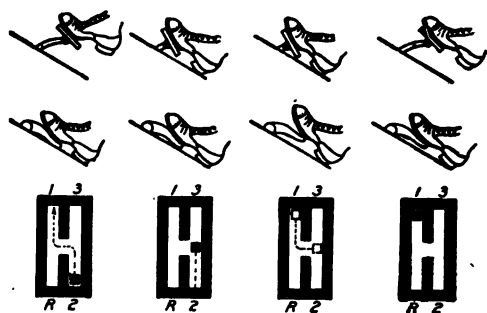

Fig. 18. Movement of Clutch Pedal (top) and accelerator (middle) in Changing from Second to Low (bottom).
**Changing from Second to First Gear.** Fig. 18 shows the change from second to first gear on the same grid, the upper line of figures showing the movement of the clutch pedal and the central line the corresponding movement of the accelerator, or throttle. The first position shows the clutch in and the throttle open ready for the change; the second shows the clutch withdrawn and the lever moved